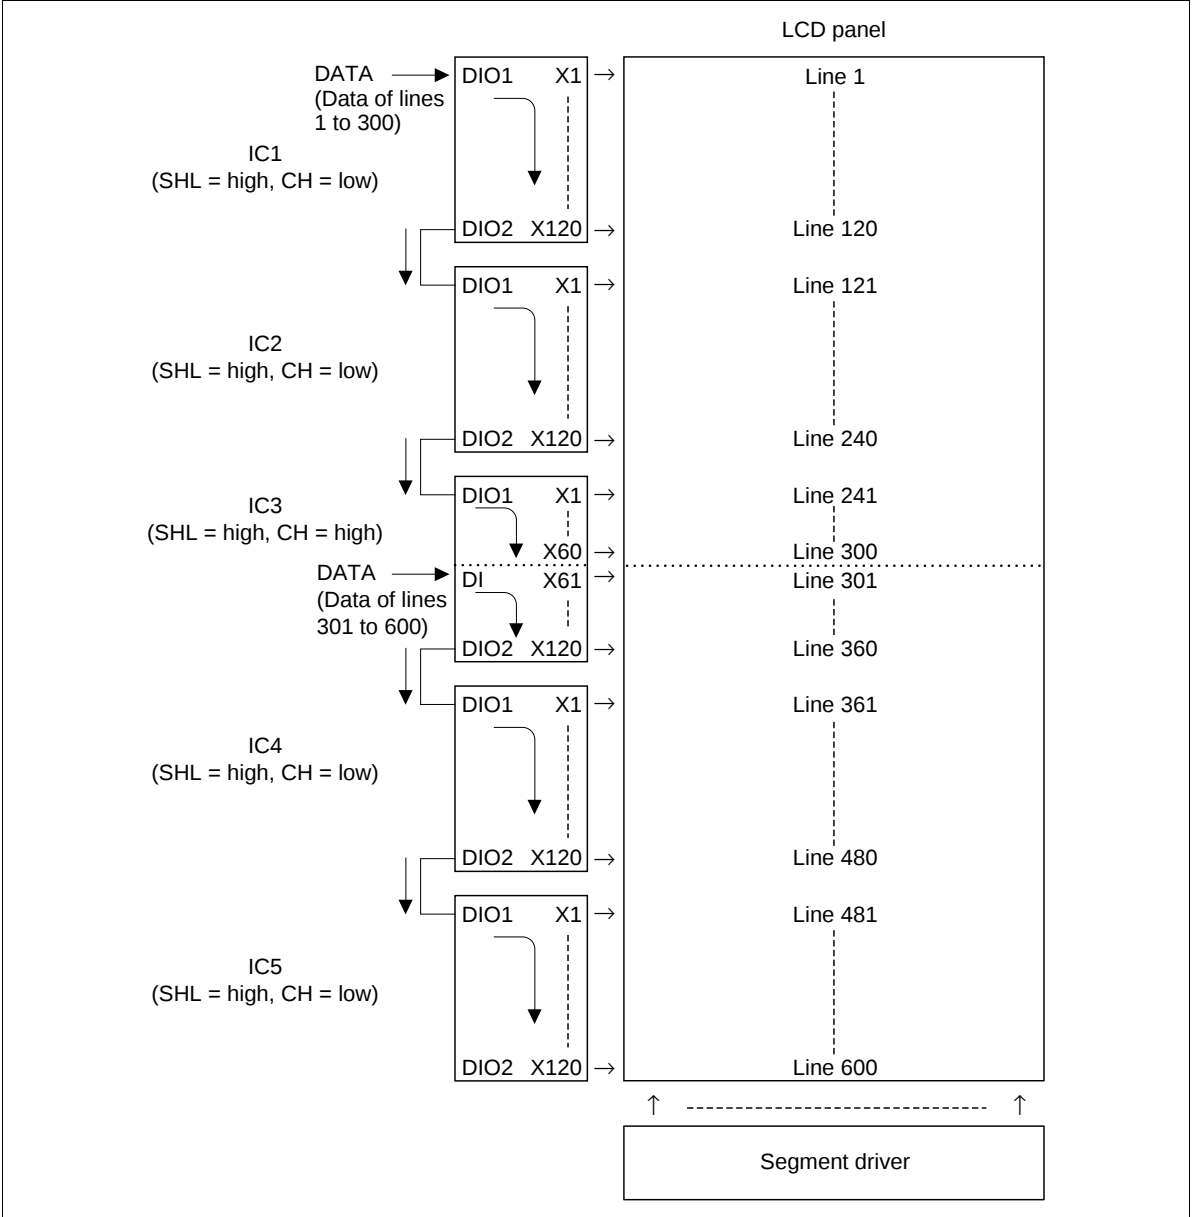
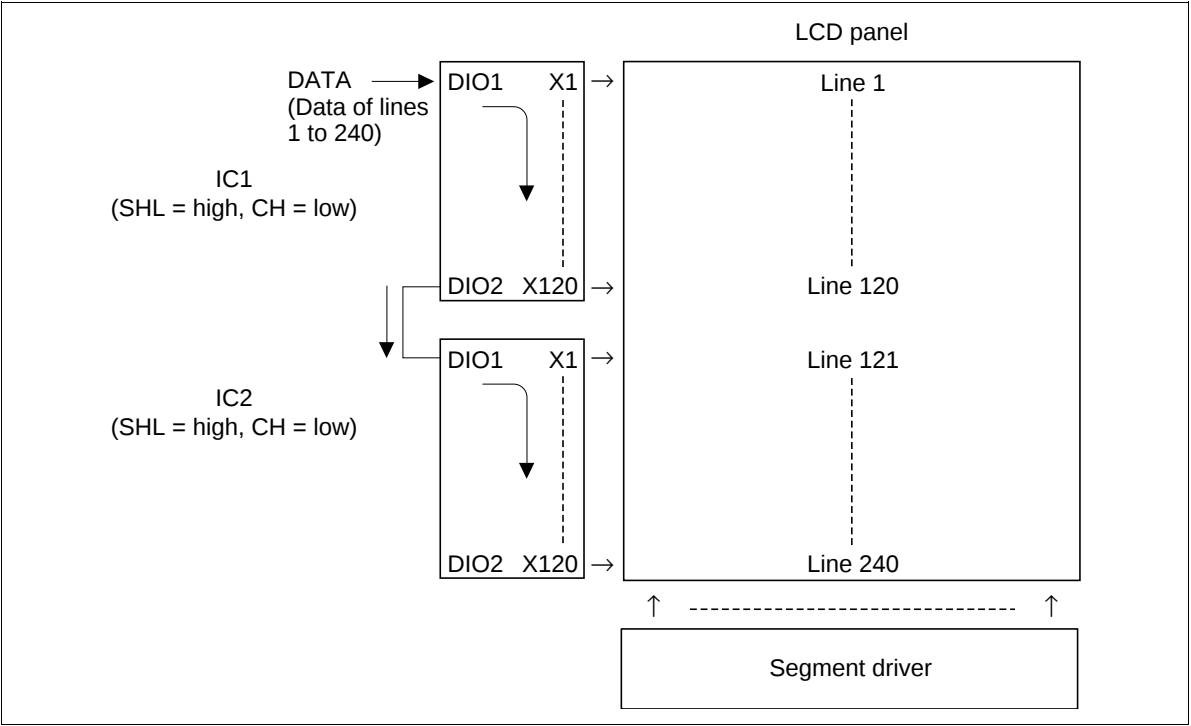

Figure 8 Dual-Screen Configuration of a 600-Line LCD Panel with a 1/300 Duty Cycle (1)
Figure 10 Single-Screen Configuration of a 240-Line LCD Panel with a 1/240 Duty Cycle (1)
Figures 8 and 9 show examples of how HD66113Ts can be configured to drive a 600-line LCD panel with a 1/300 duty cycle. Figures 10 and 11 show examples of how HD66113Ts can be configured to drive a 240-line LCD panel with a 1/240 duty cycle. The HD66113T’s 120 channels can be divided into two groups of 60 channels, and its data shift direction can be changed by selecting the data output mode pin (CH) and data shift pin (SHL), respectively.